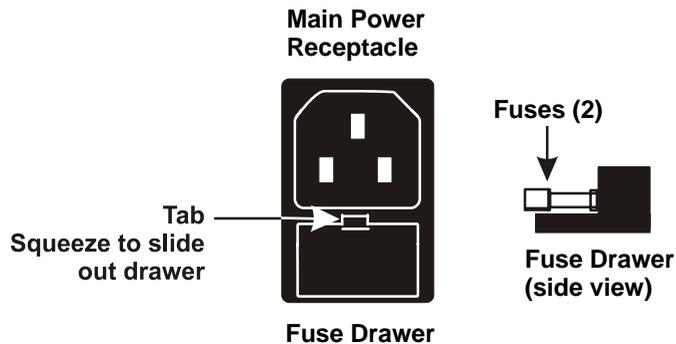

Figure 5-26. Thermal Compartment Main Power Fuse Holder
2. The fuse drawer is located below the main power receptacle (see Figure 5-26). Squeeze the tab in the center top of the drawer and pull the drawer out.